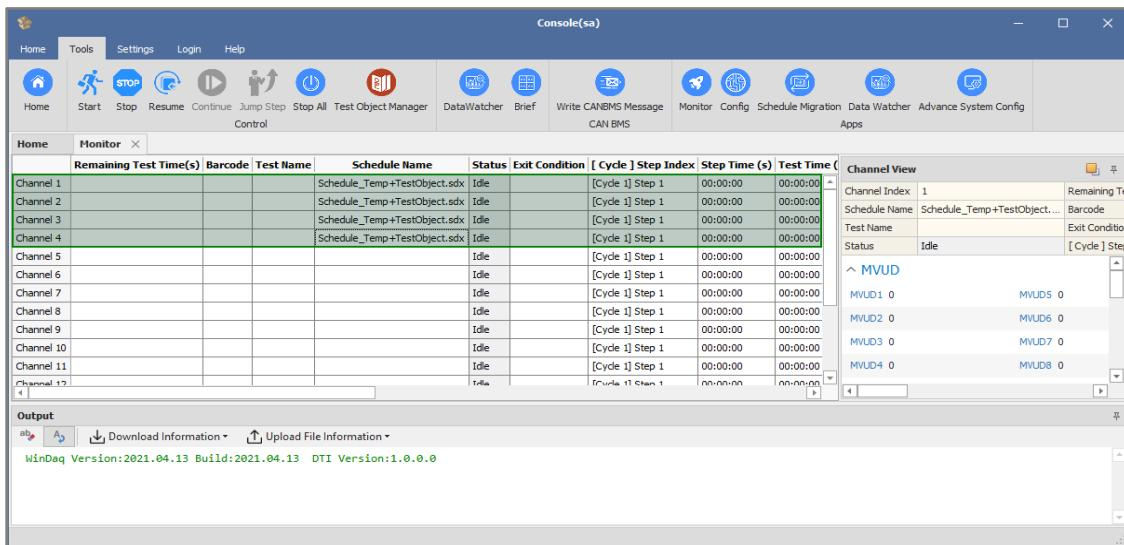

Figure 19-47 Start the Test on the Monitor Interface
Figure 19-47 shows that channel 1 is selected in the “Monitor” Interface, and a new test is started with the name "Temperature_Control_Test". Please note that after starting the test in remote mode, the status of the temperature control chamber will change from red (OFF) to green (ON). Only the chambers that run the Schedule will be activated.